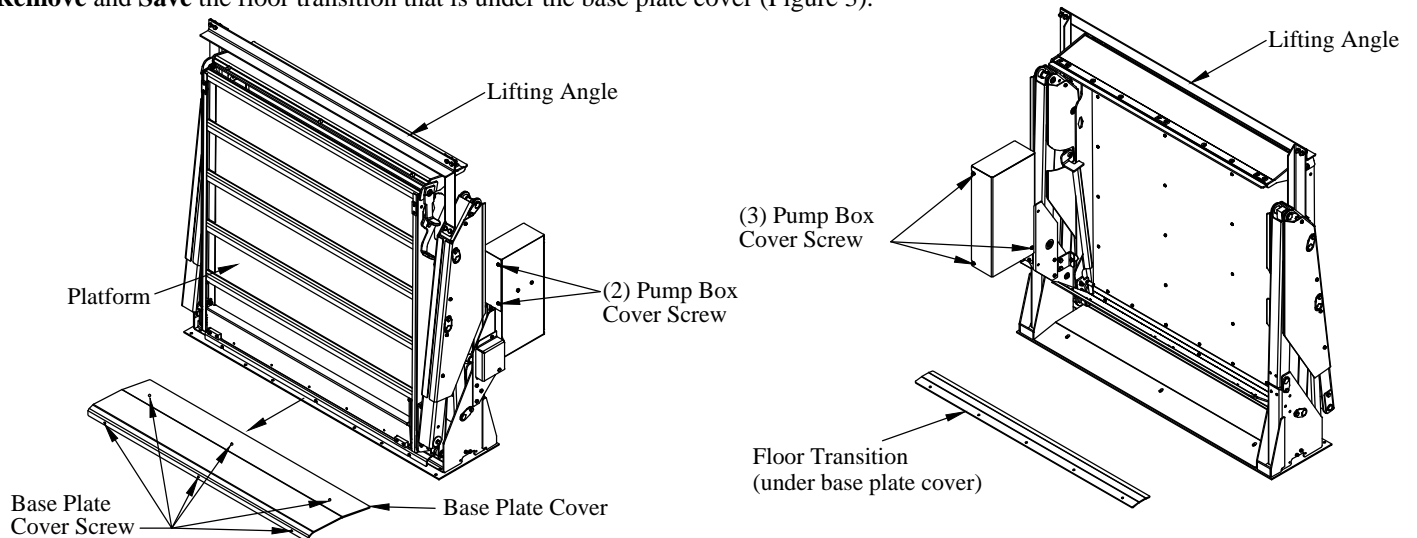

Figure 3: Base plate cover and pump box.
3. **Remove** the pump box cover by removing five (5) screws (Figure 3).
5. **Replace** the pump box cover and screws (Figure 3).
6. **Remove** and **Save** the six (6) screws fastening the base plate cover to the base plate (Figure 3).
7. **Remove** and **Save** base plate cover (Figure 3).
8. **Remove** and **Save** the floor transition that is under the base plate cover (Figure 3).
10. **Remove** the protective plywood or metal sheet that was inserted in a previous step (Figure 3).